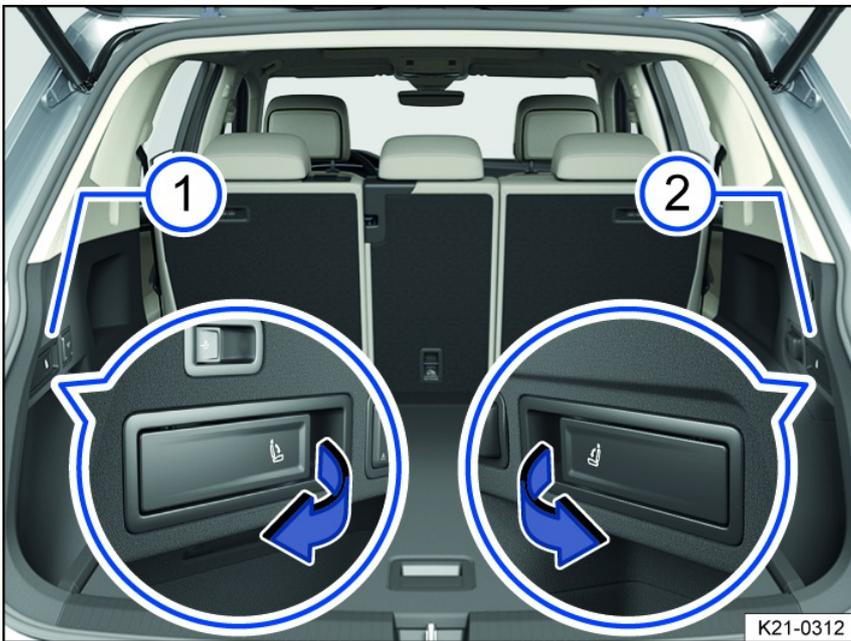

Fig. 79 In the luggage compartment: Remote unlocking lever for the left ① and right ② part of the rear seat backrest.
3. Pull the remote release lever *fig. 79* for the backrest section to be folded forwards.